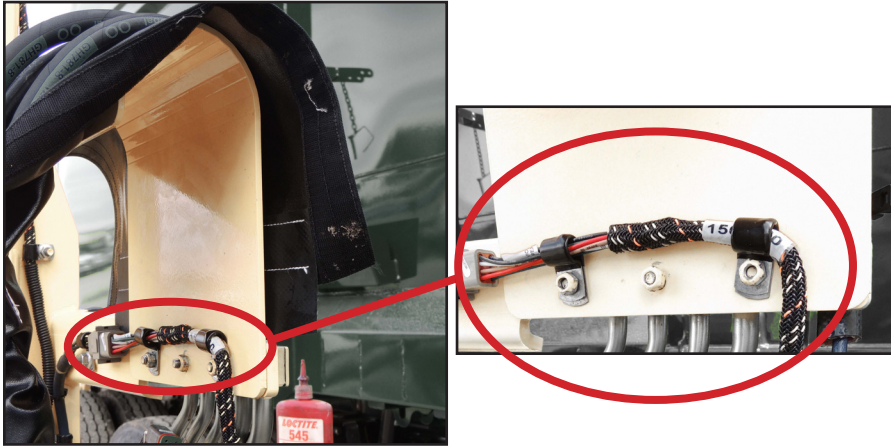

Figure 17
28. Reinstall the arm hose guide bracket to the mount using the retained nuts and 1/2" socket wrench. If the electrical harness is secured to the arm hose guide bracket by clamps, reinstall the harness with clamps and nuts to secure the bracket to the mount (Figure 17). Use a torque wrench to torque to 28 ft-lbs.